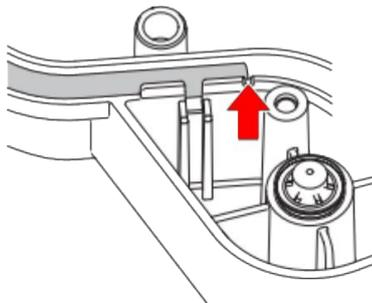

Figure 6
3. Align the first end of the sealing strip with the mark on the chassis. Indicated by the arrow in Figure 6.